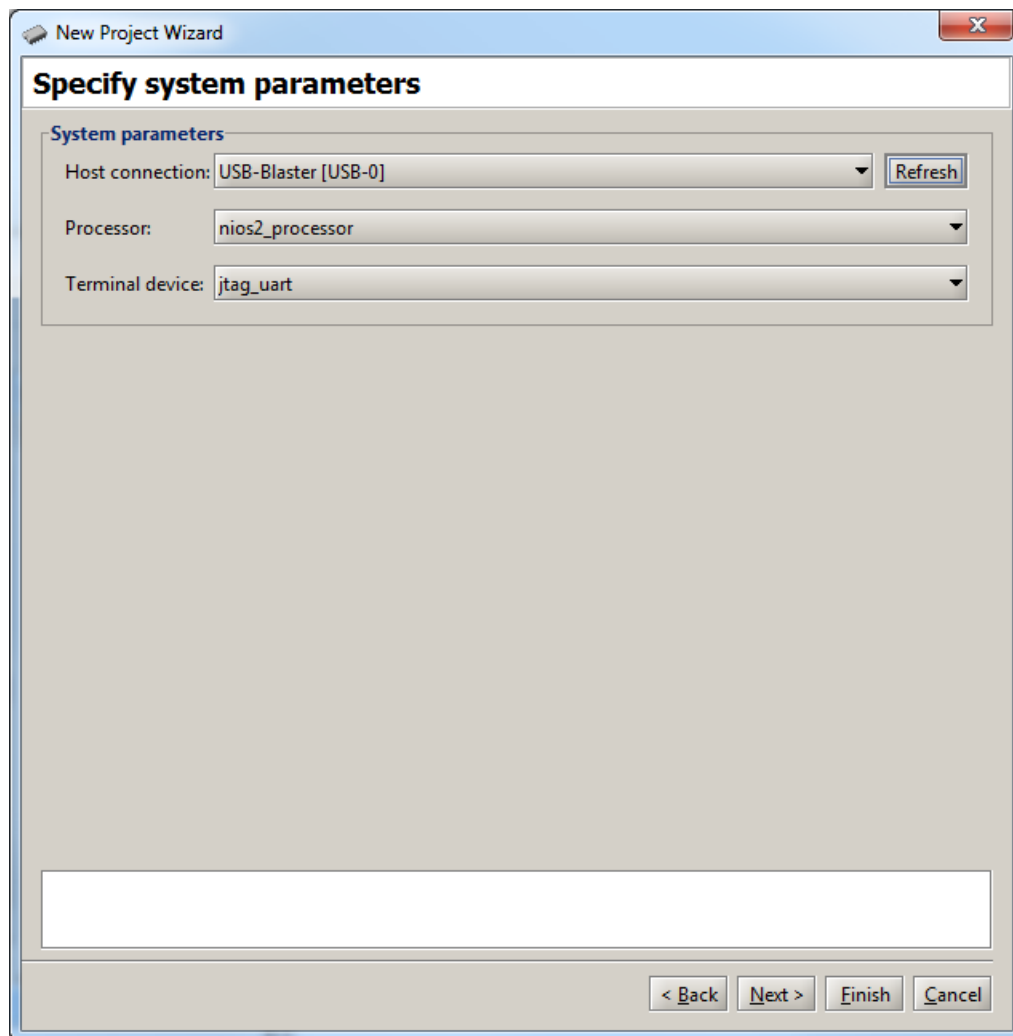

Figure 31. Specify the system parameters.
7. In the window in Figure 31, ensure that the Host Connection is set to *USB-Blaster*, the Processor is set to *nios2\_processor* and the Terminal Device is set to *jtag\_uart*. Click Next.